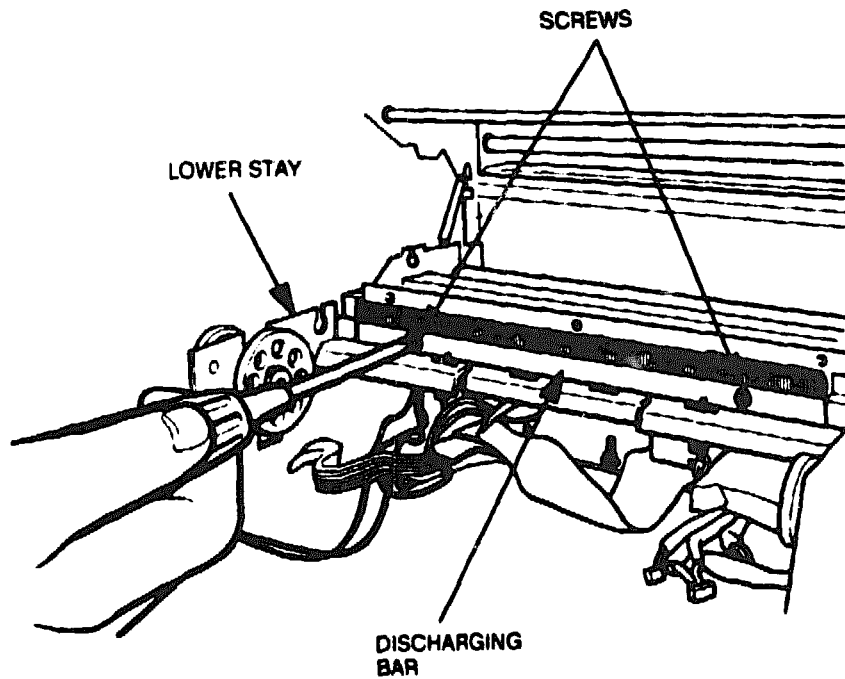

Figure 6-50 Lower Stay Discharging Bar
5. Remove the screws that secure the discharging bar to the lower stay (see Figure 6-50) and lift the bar off the stay.